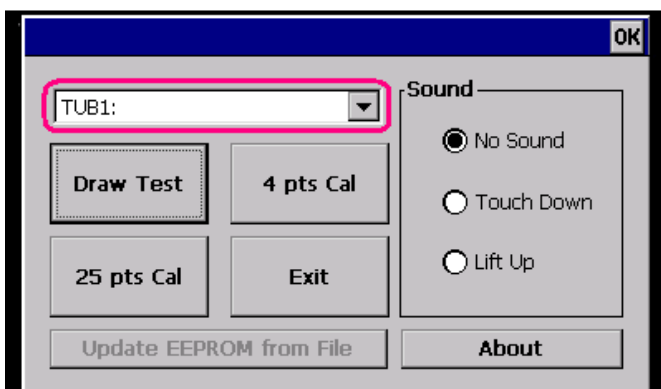
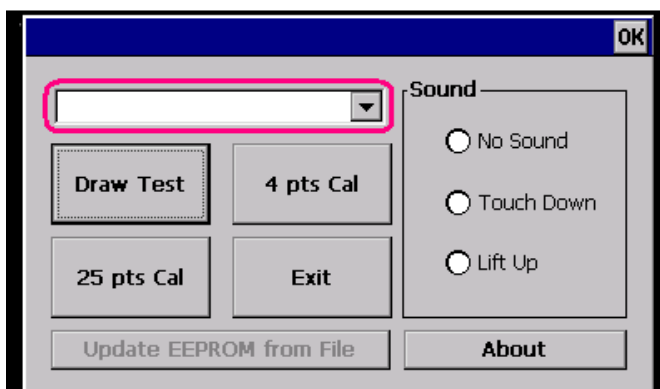

Figure 22
Figure 23
3. Make sure that **TUB1:** appears in the combo box (**Fig. 22**). If the combo box is empty (**Fig. 23**), check the connection between the USB controller and **CS9100**.